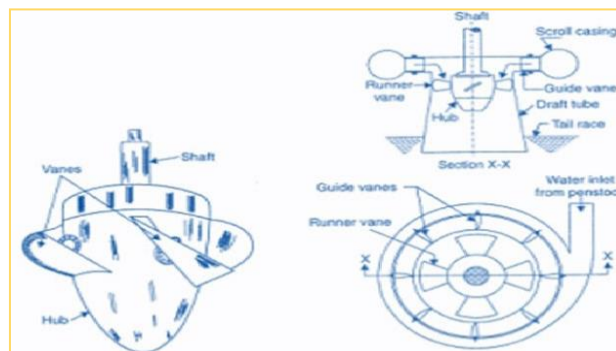

Figure 8: Schematic diagram of a Kaplan turbine
- Measure the turbine rpm with tachometer shown in figure 8.